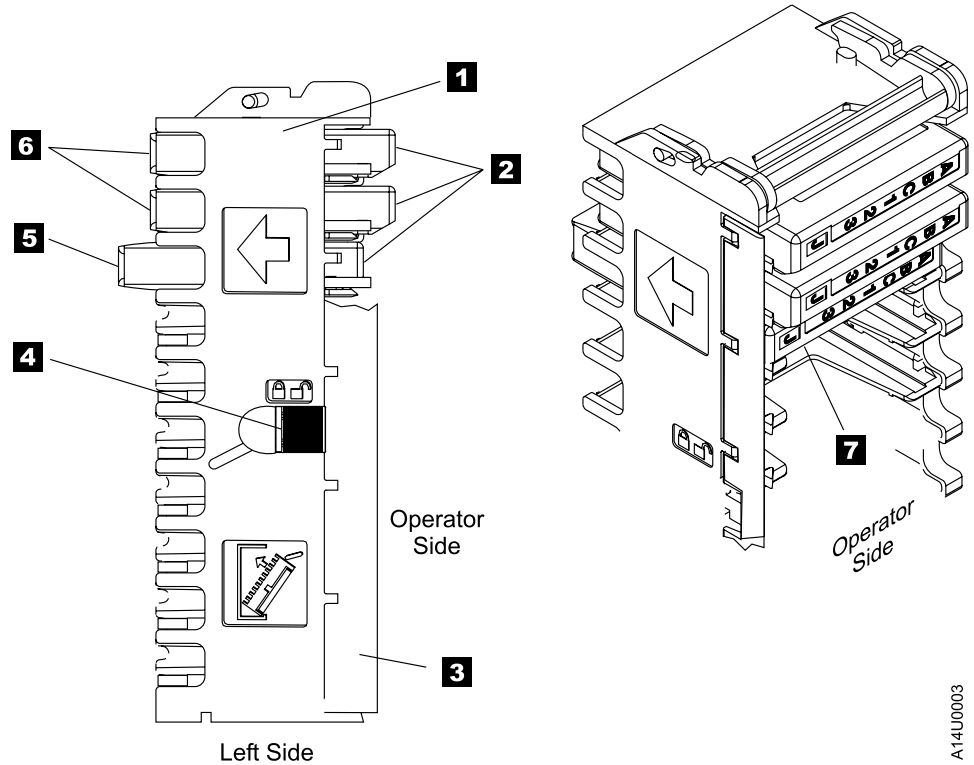

Figure 14. Left View of the 3590 Magazine Cartridge Positions
The magazine has two cartridge storage positions as shown in Figure 14 on page 47. They are the *import* and the *export* positions. A cartridge is in the import position when the cartridge is inserted into the operator side (see item **10**) of the magazine. You must insert the cartridge past the first detent, thus allowing the cartridge to stop on the second detent. This procedure places the leader block end of the cartridge closest to the machine side (see item **4**) of the magazine.
Figure 14 shows a partially loaded magazine. The magazine (see item **1**) includes two cartridge positions.
3. Cartridges are inserted into the magazine from the door side (see item **3**) of Figure 14.
Note: The magazine cartridge lock **4** in Figure 14 on page 47 must be in the unlocked position before you insert or remove cartridges from the magazine. The door **3** of the magazine **1** will be damaged if cartridges are moved with the magazine lock in the locked position.
Note: Always engage the magazine lock **4** (Figure 14 on page 47) before you transport a loaded magazine to avoid dropping the cartridges or shifting their position in the magazine.
The magazine has a door (3 in Figure 14 on page 47) that extends along the entire length of the magazine. The door is located at the front left side of the magazine when viewed from the front. A hand-operated slider is located in the middle of the magazine frame. The two positions for the magazine lock are as follows: